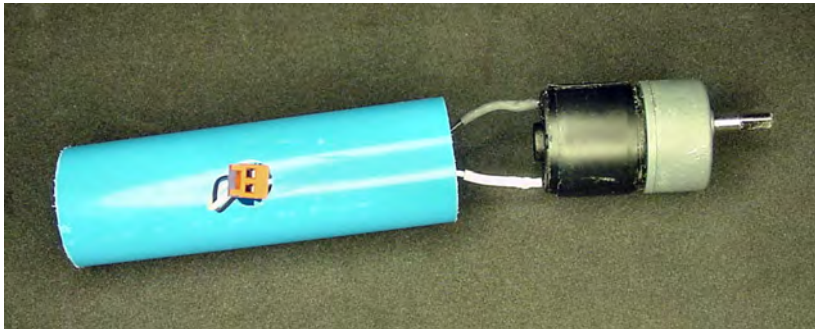

Figure 24-20. Motor's Molex connector emerging from hole in middle of tube
15. Feed the Molex connector of the 39 cm taped motor through the smaller end of the tube and out the center hole (see Figure 24-20).